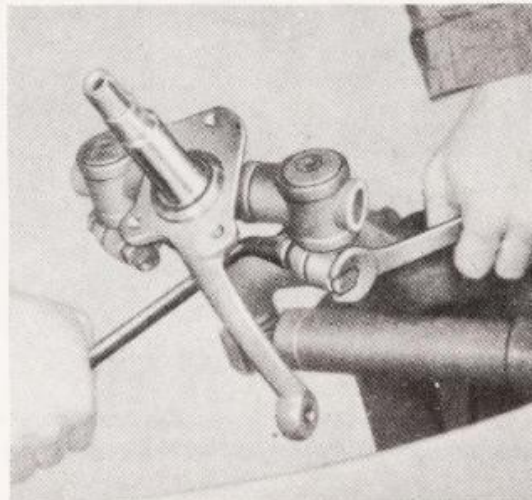

Fig. G-11. Loosening torsion arm eye clamp bolts.
- 4 - Remove clamp bolts from torsion arm eyes, Fig. G-11.